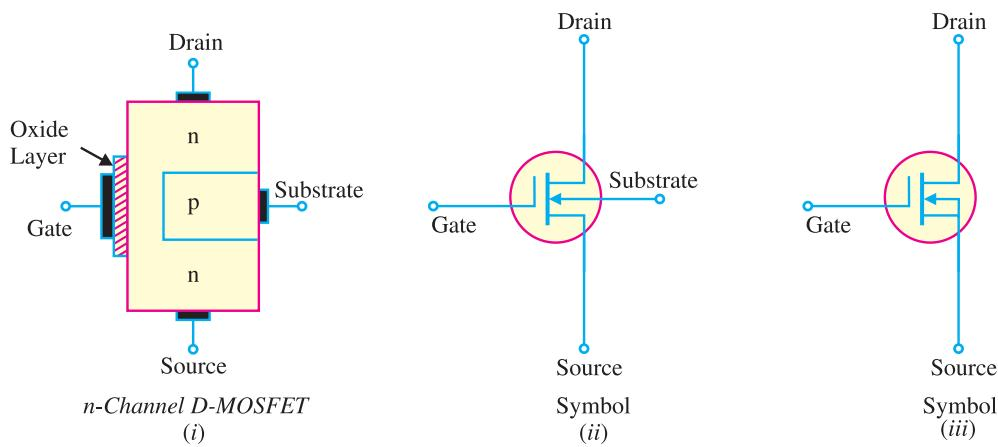

Fig. 19.45
**(i) n-channel D-MOSFET.** Fig. 19.45 (i) shows the various parts of *n*-channel D-MOSFET. The *p*-type substrate constricts the channel between the source and drain so that only a small passage
remains at the left side. Electrons flowing from source (when drain is positive w.r.t. source) must pass through this narrow channel. The symbol for *n*-channel D-MOSFET is shown in Fig. 19.45 (ii). The gate appears like a capacitor plate. Just to the right of the gate is a thick vertical line representing the channel. The drain lead comes out of the top of the channel and the source lead connects to the bottom. The arrow is on the substrate and points to the *n*-material, therefore we have *n*-channel D-MOSFET. It is a usual practice to connect the substrate to source internally as shown in Fig. 19.45 (iii). This gives rise to a three-terminal device.